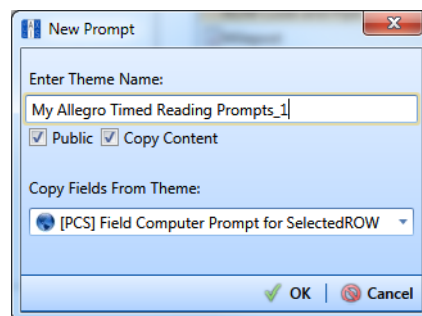

Figure 8-20. New Prompt
- Click  **Add** to open the *New Prompt* dialog box (Figure 8-20).